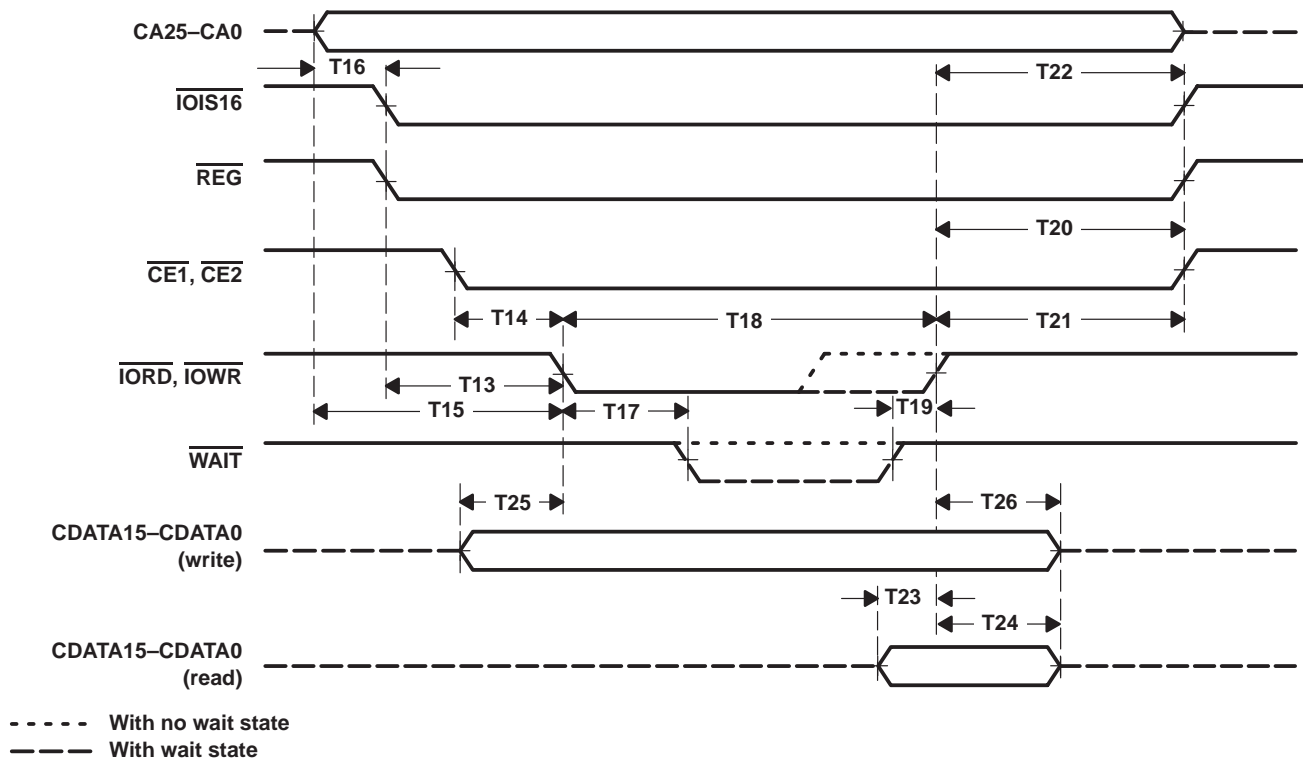

Figure 30. PC Card I/O Cycle
**timing requirements over recommended ranges of supply voltage and operating free-air temperature, I/O cycles (see Figure 30)**